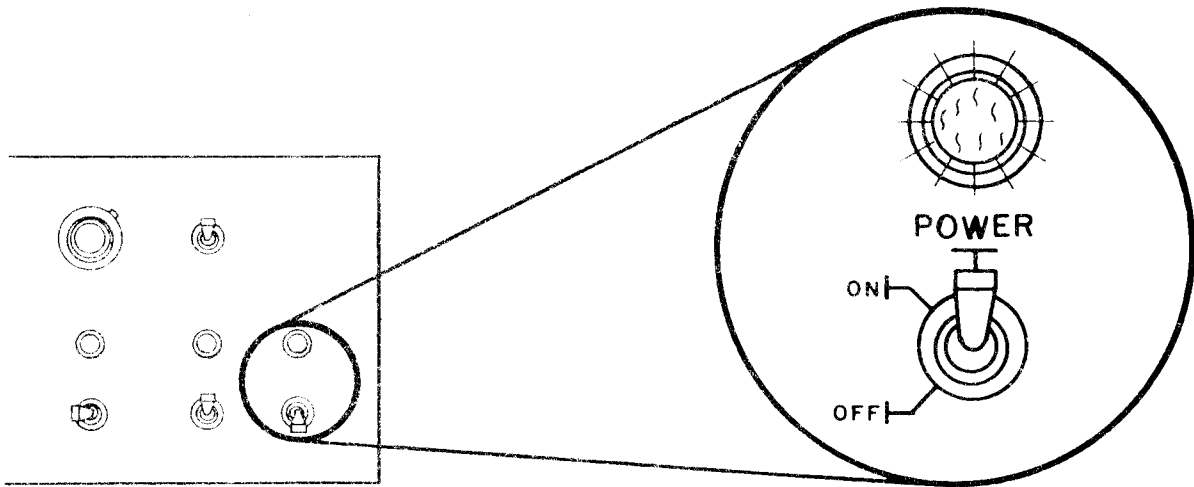

Figure 56. POWER Switch to ON
- f. On the front panel, flip the POWER switch to the ON position (see Figure 56).